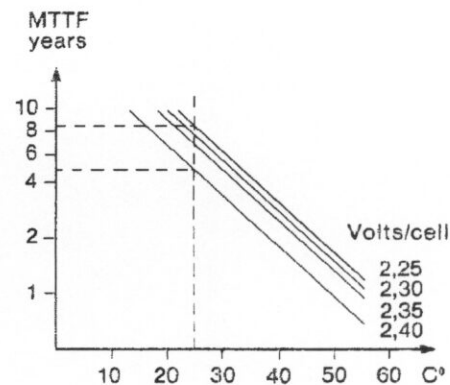

Fig. 1 Expected life (MTTF) for battery cells with trickle charging and without temperature compensation of the charging voltage
- The battery life is greatly reduced. With 2.40V per cell, its life is only half the life of a cell at 2.25V, see Fig. 1. (This applies to, for example, cylindrical cells from Gates Energy Products. [2])